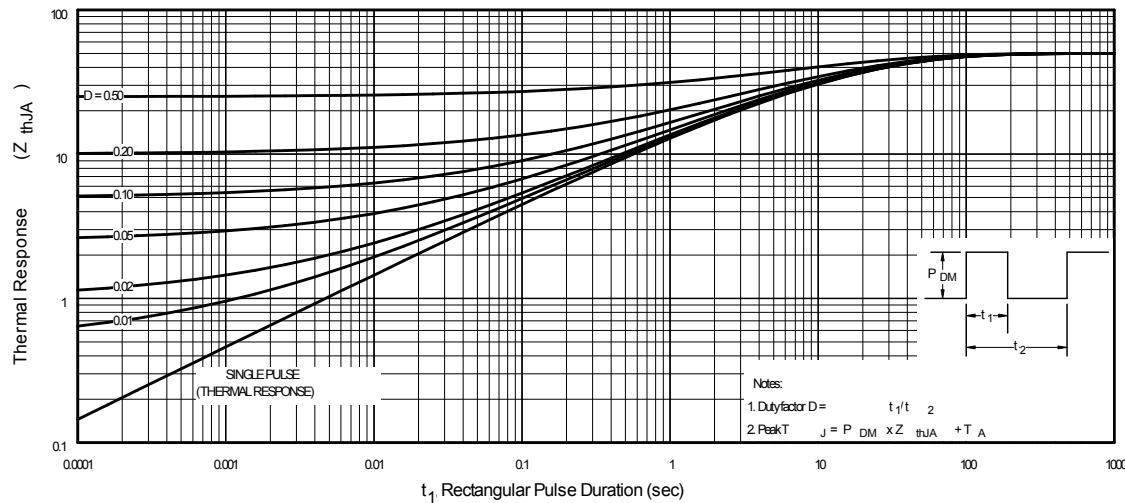

Fig 11. Maximum Effective Transient Thermal Impedance, Junction-to-Ambient
7. $\Delta T = \text{Allowable rise in junction temperature, not to exceed } T_{j\max} \text{ (assumed as } 25^\circ\text{C in Figure 11, 16).}$
$Z_{thJC}(D, t_{av}) = \text{Transient thermal resistance, see Figures 11)}$